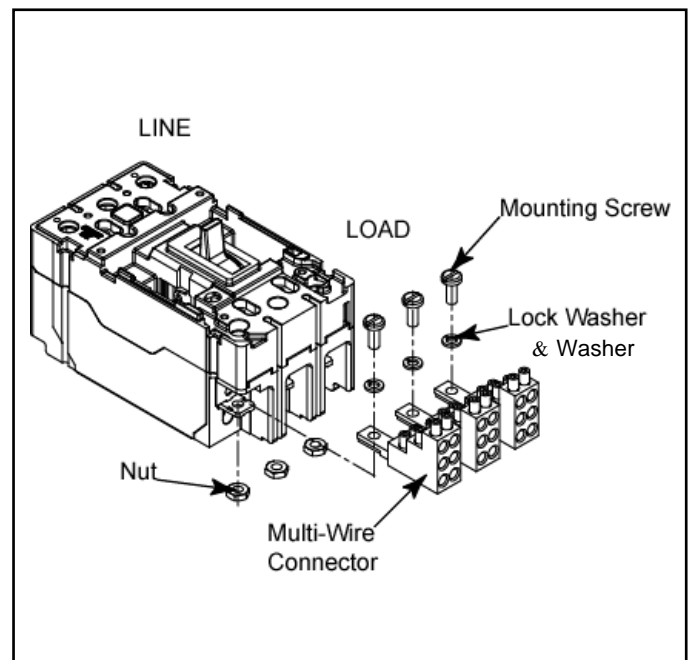

Fig. 1-1 Multit-Wire Connector Kit Installation Layout
1. INSTALLATION OF MULTI-WIRE TERMINAL CONNECTOR KIT (Fig. 1-1)